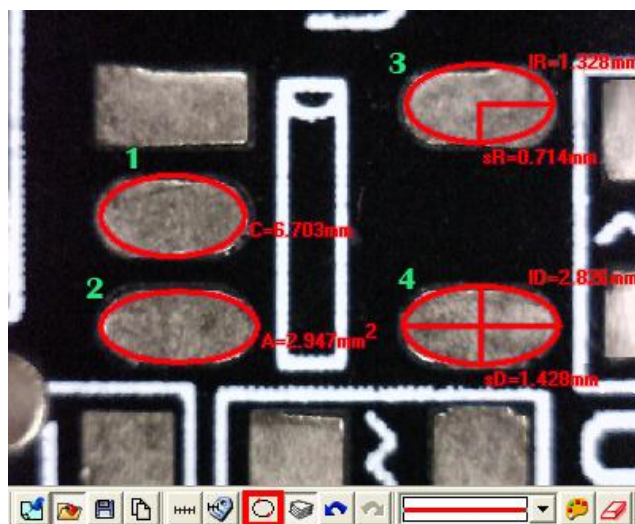

Fig 5-67 Oval
- (4) Oval: Measure an oval circle and use . Firstly choose Fig.5-67 Scale information setting dialog. To point any dot on an oval, pressing the left mouse button, and drag to fit the oval on an observation object. Same methods as Circle to be measured for 2 Points Circle and 3 Points Circle, 1st oval  $C=6.703\text{mm}$ , 2nd oval  $A=2.947\text{mm}^2$ , 3rd oval:  $IR=1.328\text{mm}$ ,  $sR=0.714\text{mm}$ , 4th oval  $ID=2.826\text{mm}$ ,  $sD=1.428\text{mm}$ .